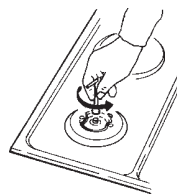

Fig. 5
Adaptation to various types of gas (Fig. 5)
- replace the injector (Fig. 5) with the corresponding type of gas to be used (see table "User characteristics");